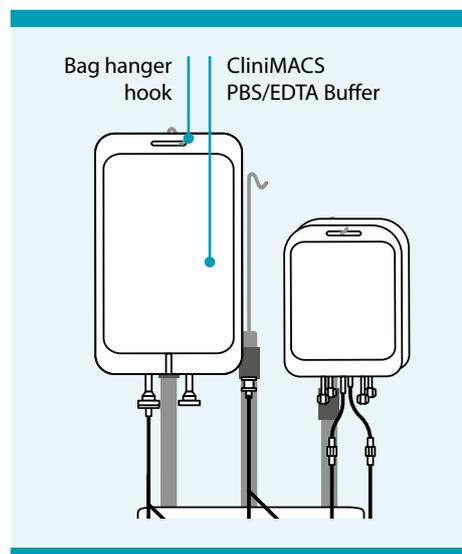

Figure 7.18: Attach buffer bag
2. Attach the buffer bag to the buffer bag hook on the bag hanger (see Figure 7.18).